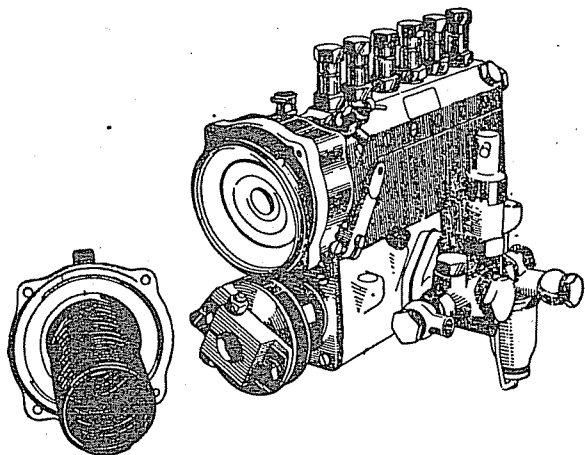

Fig. 21—Removing Diaphragm from Pneumatic Governor.
- (1) Disconnect the vacuum pipe.
- (2) Take out the screws holding the pneumatic governor in place.
- (3) The diaphragm will then be accessible. It is held in a light U section metal rim, which must be prised from the casing. (See Figure 21.) Great care should be exercised when carrying out this operation.
- (4) For preference, use a piece of sheet metal about $\frac{3}{4}$ inch wide, shaped at the end to fit the curve of the rim and sharpened to an edge similar to a screw driver.
- (5) Lift the edge of the rim carefully all round.
- (6) When the rim is free, slide the socket at the back of the diaphragm off the pin in the control rod. Be careful not to mark the face